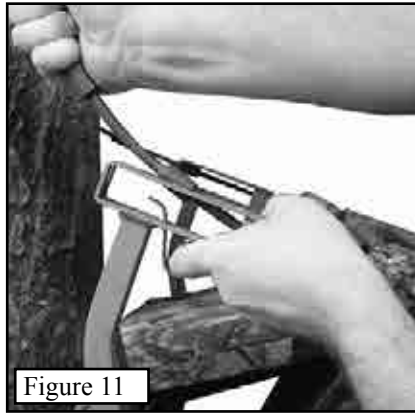

Figure 11
Step 2. Take one end of the cable around the tree and begin to slide it down into the tubing as shown in **Figure 11**. Once the cable slides easily into the tubing (it helps to bend the cable upward while pushing down on it), you are ready to place it in its final position.